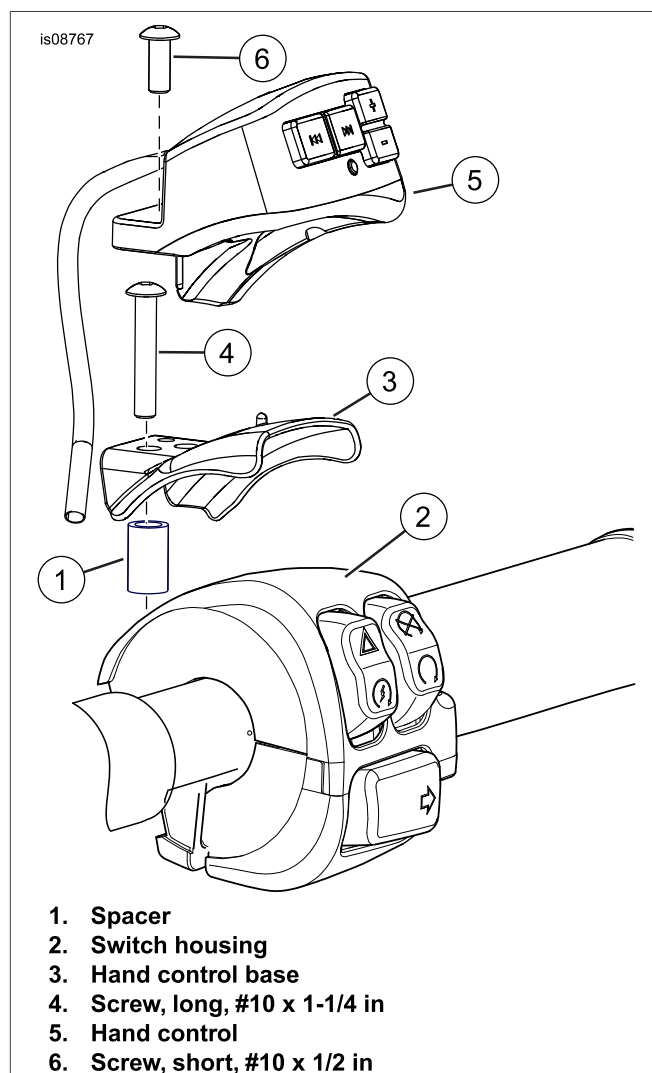

Figure 4. Hand Control Installation
5. See Figure 4. Set spacer (1) on switch housing over the hole where the screw was removed earlier.
6. Set hand control base (3) over spacer and switch housing. **2014 and later Road King models:** No spacer is used.
7. **All models except 2014 and later Road King:** Align screw (4) with correct hole in hand control base, through spacer into hole on switch housing.